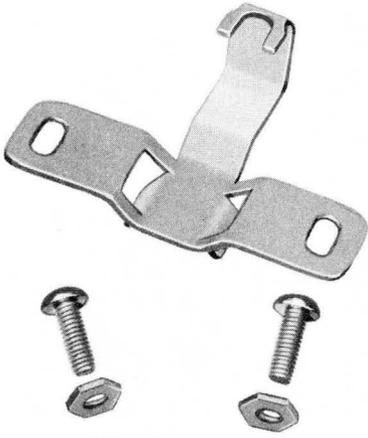

Fig. 33—90A Bracket
- 90A (MD) bracket (Fig. 33)—use with 123B1A, 128A1A-2, or 128E1A-2 protectors for indoor location